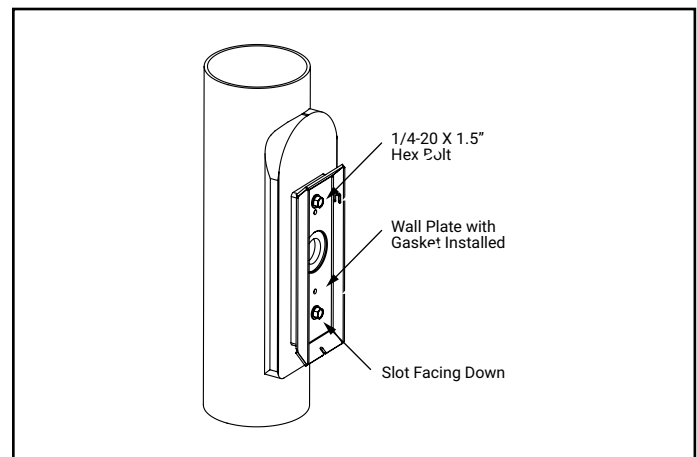

Figure 3
2. Fasten housing mounting plate, slot facing downward, with 2 x 1/4"-20 hex bolts as shown. Tightening torque shall be 50 in-lbs. (Figure 3)